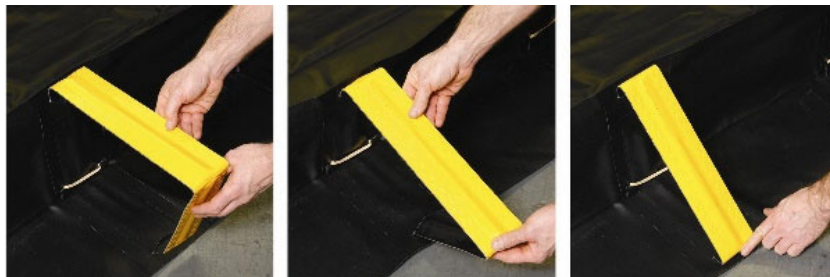

Figure 1
2. Insert replacement stay up through the bottom of the sidewall pocket. Fold the stay outward and insert stay into skirt pocket as shown in Figure 1.